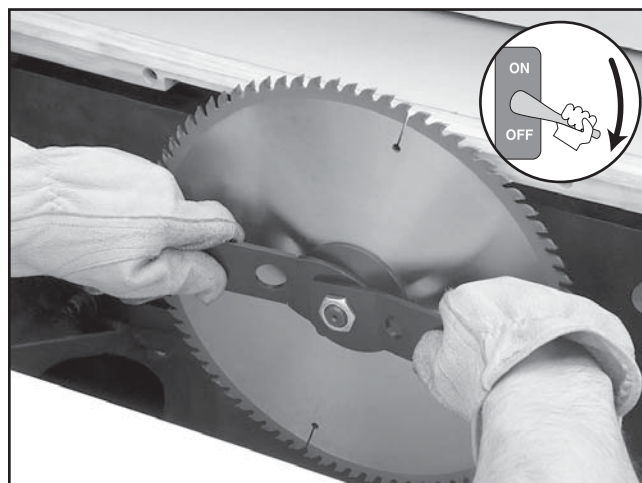

Figure 69. Replacing the main blade.
5. Use the arbor wrenches, as shown in **Figure 69**, to remove the arbor nut and arbor flange, then pull the old blade off the arbor. *The arbor nut has left hand threads and loosens by turning clockwise.*